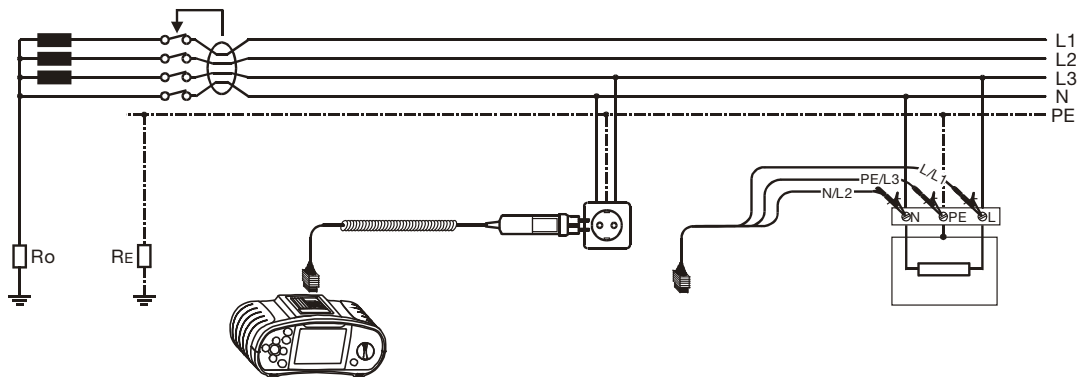

Fig. 5.15: Connection of plug test cable or universal test cable
Step 3 Follow the connection diagram shown in figure 5.15 to perform contact voltage measurement. Use the **Help** function if necessary
- Step 3** Follow the connection diagram shown in figure 5.15 (see the chapter **Contact voltage**) to perform trip-out time measurement.
- Step 3** Follow the connection diagram shown in figure 5.15 (see the chapter **Contact voltage**) to perform trip-out current measurement. Use the **Help** function if necessary.
Step 3 Follow the connection diagram shown in figure 5.15 (see the chapter **Contact voltage**) to perform the RCD autotest. Use the **Help** function if necessary.